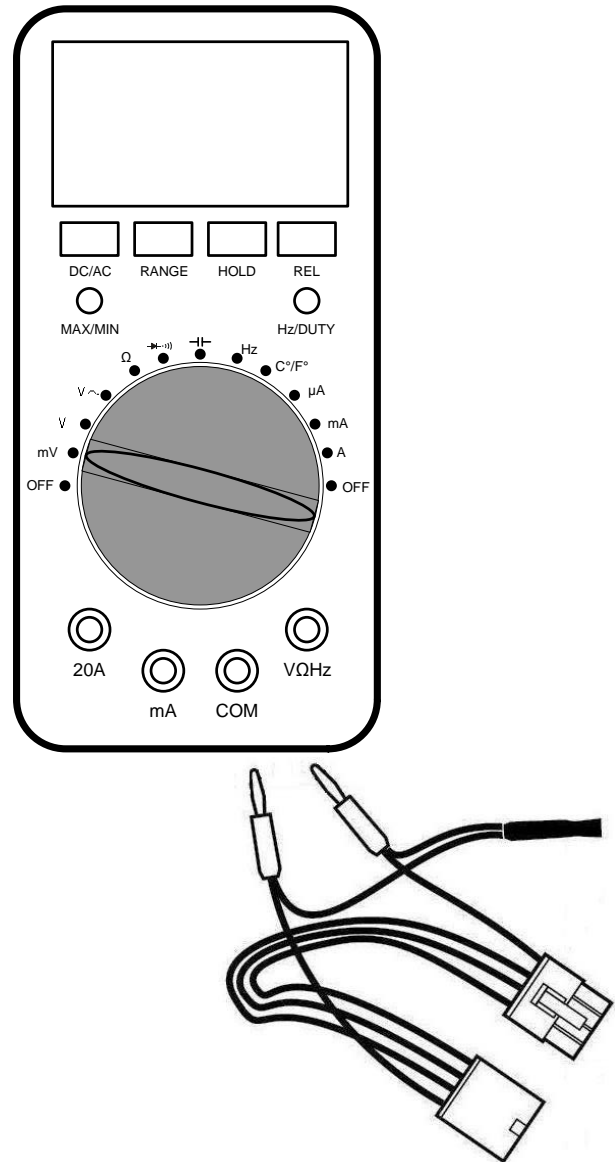

Figure 5
- a. Insert the valve side of the Test Harness through the female end of the Signal Converter jack and into the **V/ Ω /Hz terminal** of the meter, **Figure 5**.
- a. Insert the valve side of the Test Harness through the female end of the Signal Converter connector and into the **V/ Ω /Hz terminal** of the meter as shown in Figure 5.
- b. Insert the HSI element/flame rod side of the Test Harness through the female end of the Signal Converter connector and into the **COM terminal** of the meter, as shown in Figure 5.